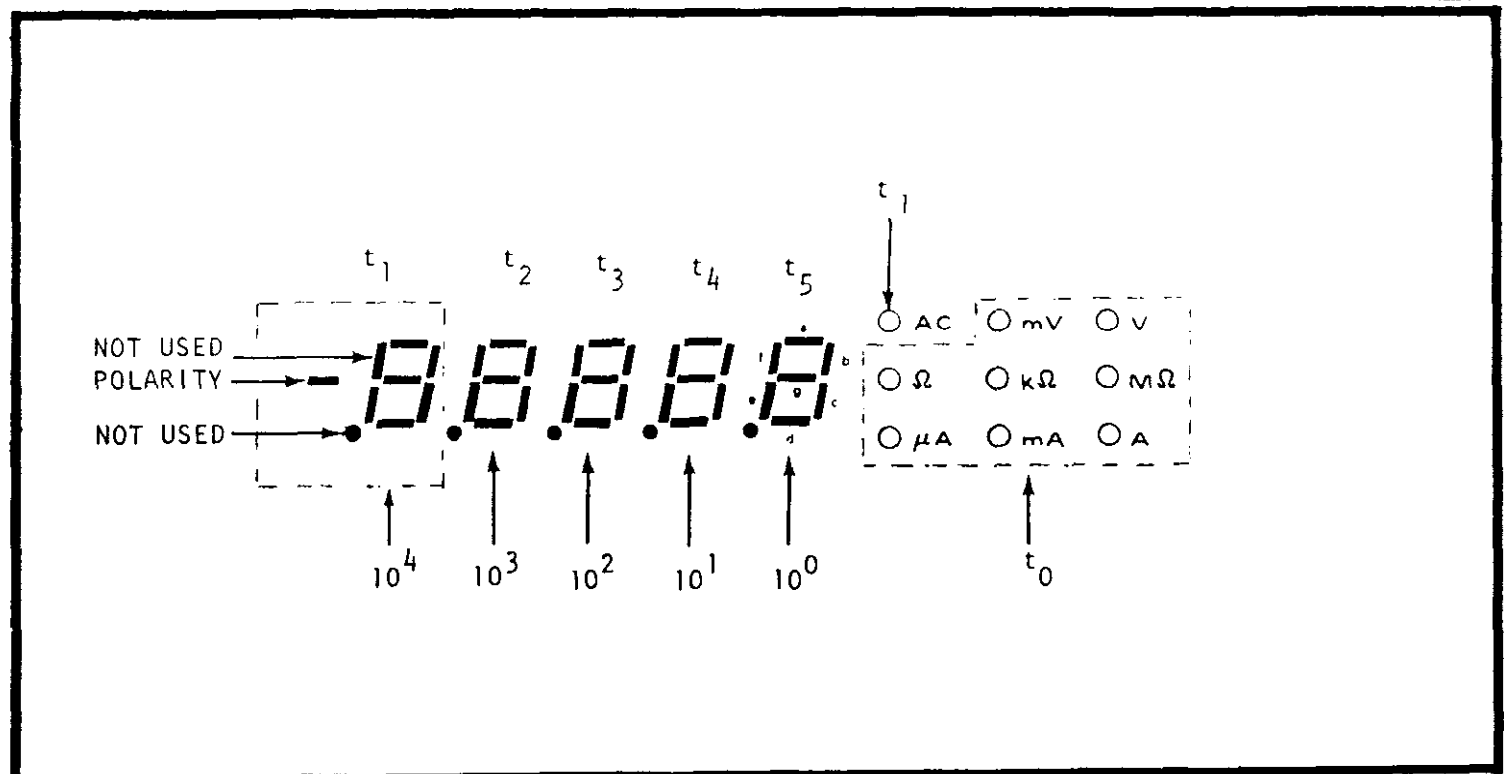

FIGURE 26. Digital Display Multiplex Scheme.
a. This schematic shows the display digits, the LED function indicators, all display drivers and timing mux generator. The entire display, including minus sign and function indicators are fully multiplexed. This is accomplished with six time slots (timing mux). The mux times are generated by shift register U301 whose inputs come from the LSI chip (U103, Schematic 27904F). These time slots are referred to as t_0 , t_1 , t_2 , t_3 , t_4 , t_5 . The common anodes of each digit and the common anodes of the function indicators are driven from the appropriate mux line, See figure 26. These mux times are also used in operating digital interfaces (See Section 5-8, 1722). The mux times occur in the sequence t_0 thru t_5 , t_0 and t_1 are 383 microseconds each, and t_2 thru t_5 are 191 microseconds each. One complete mux cycle is 1.53 milliseconds.